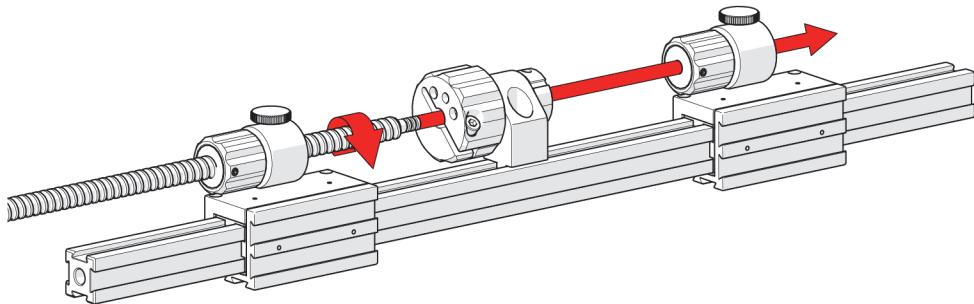

Figure 2-54 Installing the leadscrew
4. Screw the leadscrew into the first slider, then the main knob and finally the second slider assembly (see Figure 2-54 on page 73).